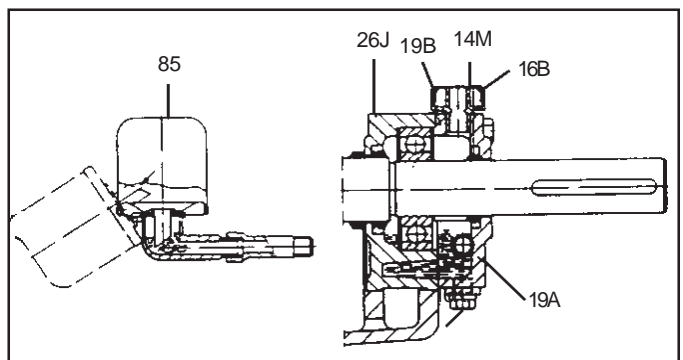

FIGURE 9a: Oil Lubricated Bearing Construction
- On those PACO Type KP Centrifugal Split Case Pumps ordered with oil lubricated bearings, (See Fig. 9a) a regular oil maintenance program must be enforced. Pumps with oil lubricated bearings are fitted with a transparent reservoir (85) (constant level oiler) that maintains the oil level about the centerline of the lower bearing. When necessary, the oil supply in the reservoir of the constant level oiler must be renewed. To refill, remove the reservoir and fill with oil. After filling with oil replace into operating position.